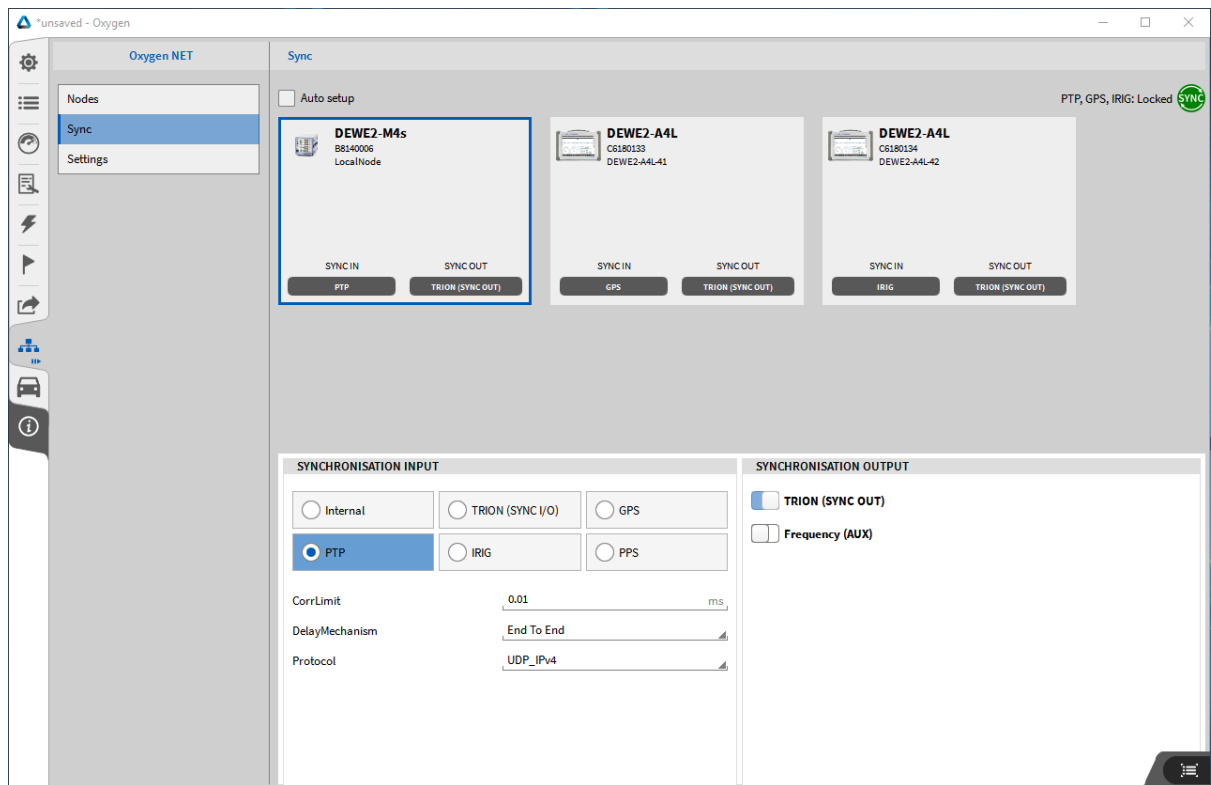

Figure 12-20: Sync View with TIMING-Modules. Select node to change settings
- It is not necessary to use the same Source within every node, you can use GPS at the first node and PTP at the second node, see Figure 12-20.